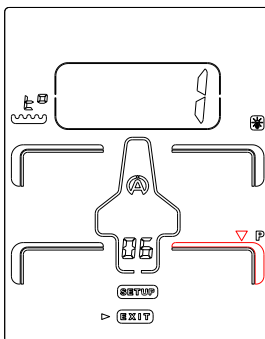
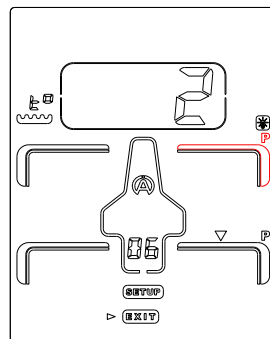

Figure 18
Figure 19
- 4) Press the central button **Ok** to confirm your choice (figure 18).
After confirmation, the icon « P » selected freezes, the number 1 show off in the « CADRAN ». Then, another icon appears automatically, blinking, (red arrow, figure 18). If the place of the second capture doesn't suit you, same thing, repeat the operations as explained above (figure 19).